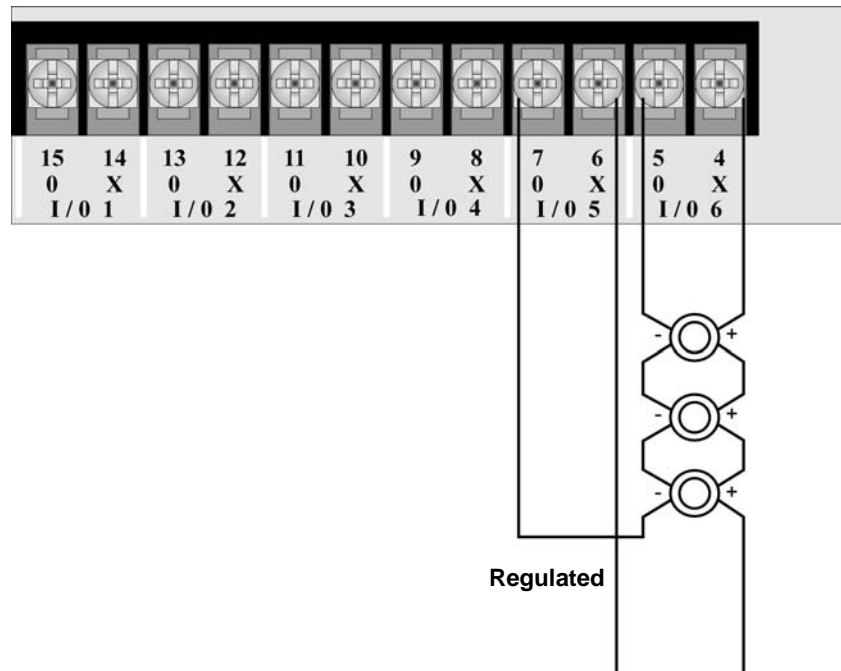

Figure 3-9 Class A Notification Appliance Circuit Configuration
1. Wire the Class A notification appliances as shown in Figure 3-9.
Note: In programming any point that uses multiple I/O circuits are always referred to as the lowest I/O circuit number used. For example, Figure 3-9 uses both I/O circuit 5 and 6, so in programming it would be referred to as point 5.